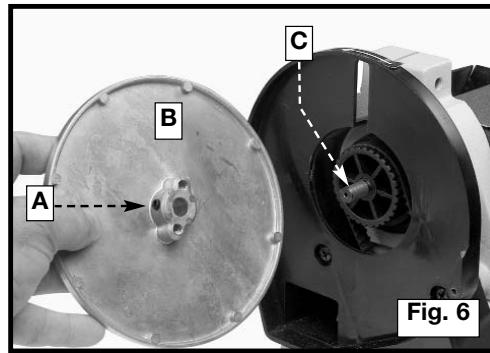

Fig. 6
- Align the flat of the drive shaft with the set screw (A) Fig. 6 in the hub of the plate (B) and install the sanding disc plate (B) on the drive shaft. Slide the plate (B) on the shaft (C) until the plate surface and the shaft are flush.